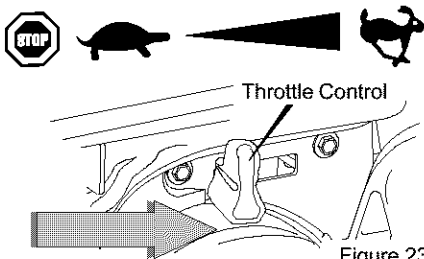

Figure 23
4. Move throttle control to "FAST" position. Operate the engine with the throttle control in the "FAST" position (see Figure 23).